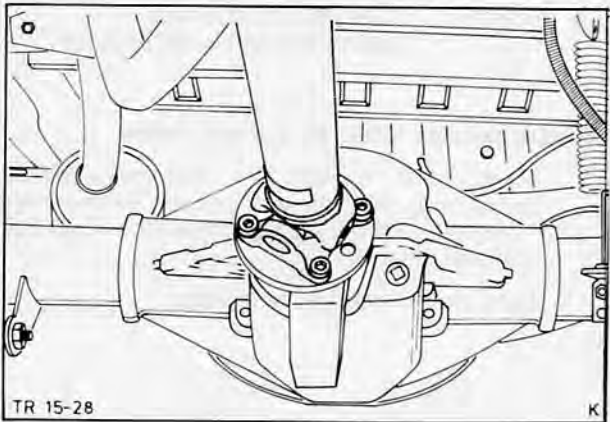

Fig. 139. Detach driveshaft from rear axle flange
- 1. Disconnect driveshaft from rear axle flange (4 bolts), Fig. 139.